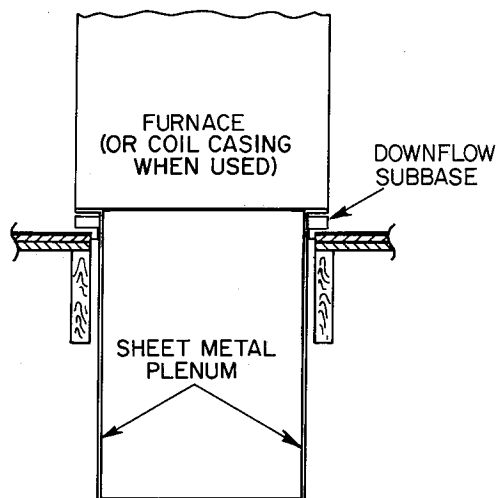

Figure 6—Furnace, Plenum, and Subbase Installed on a Combustible Floor
2. When completed, downflow subbase, plenum, and furnace (or coil casing when used) should be installed as shown in Figure 6.